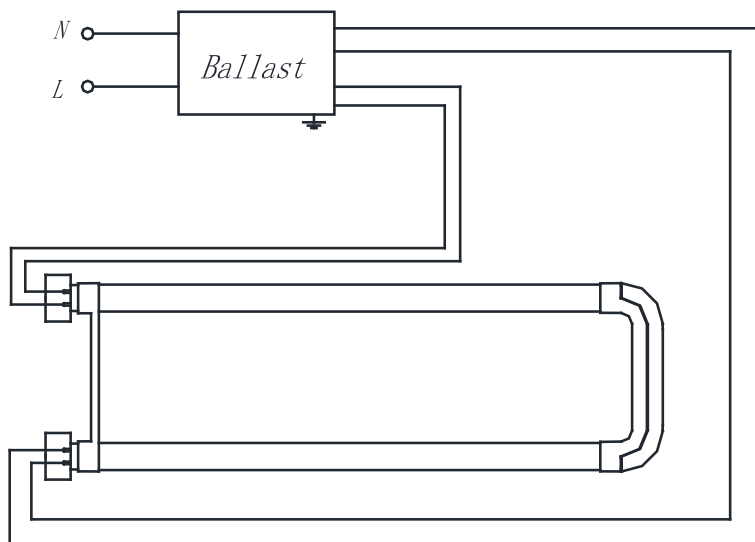

Fig.1
**STEP 3:** Check if the LED tubes rating parameters can be replaced in this luminaire, below is the original wiring drawing, shown as below Fig.1